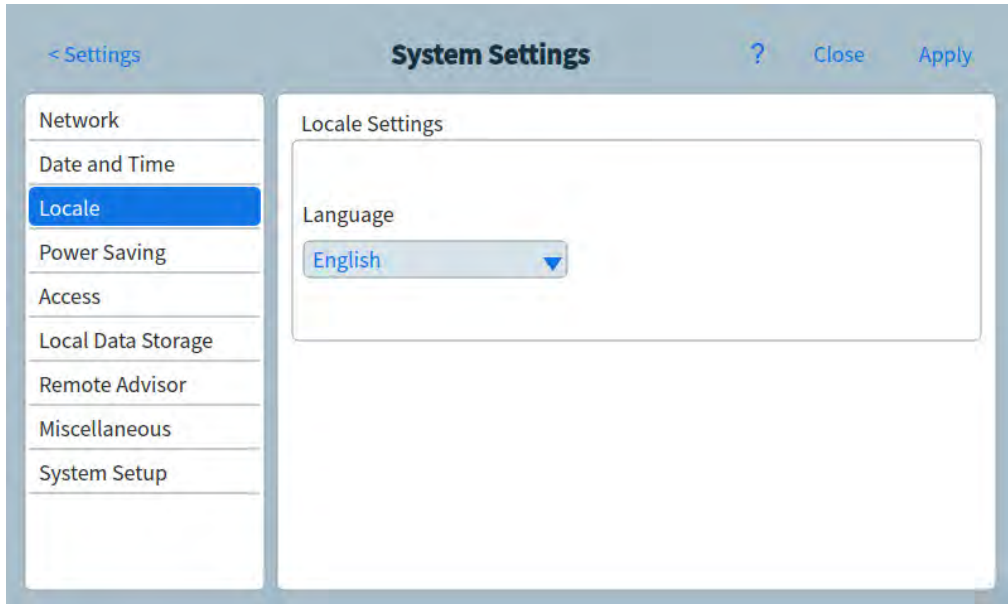

Figure 46. Locale Settings page
- 1 From the System Settings page, select the **Locale** page selection button. The Locale Settings page appears. See **Figure 46**.